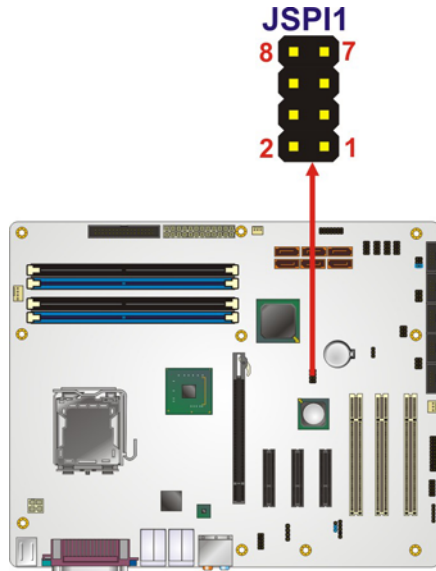

Figure 4-18: SPI Flash Connector Pinouts
- CN Location:** See **Figure 4-18**